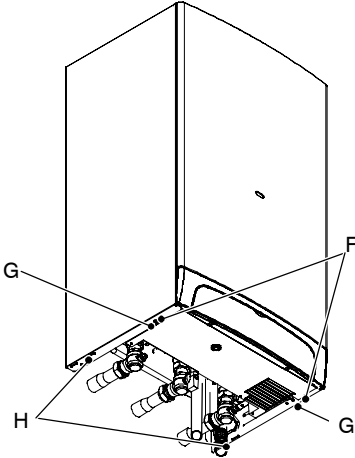

Fig. 6.14
- 2 Remove the screws F and G (Fig. 6.14).